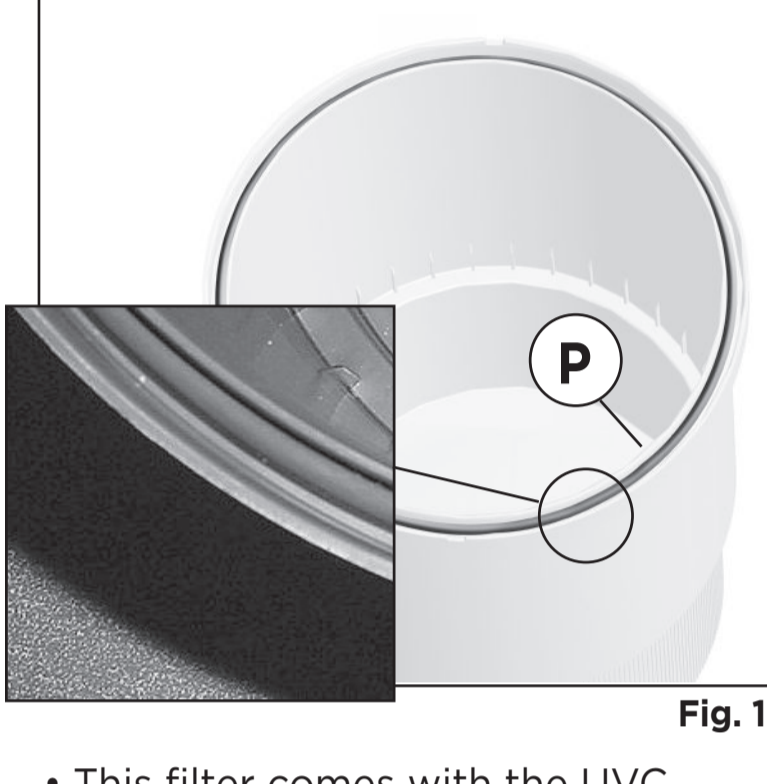

Fig. 1
- Before the first start-up, it is necessary to install the lid O-ring (P), which is supplied in a separate poly bag. This O-ring must be correctly inserted in its seat at the top of the filter canister (**Fig. 1**).